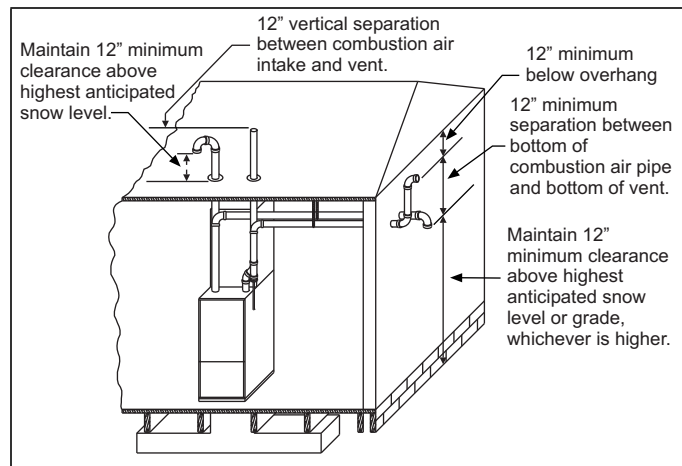
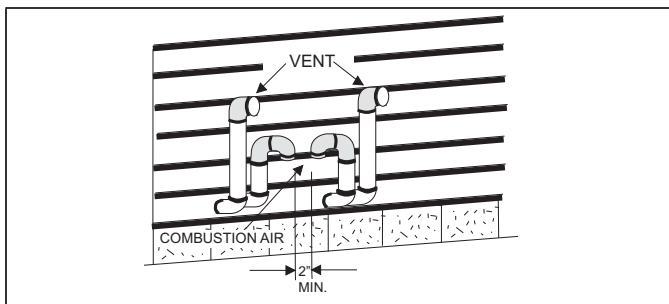

FIGURE 28: Termination Configuration - 2 Pipe
FIGURE 30: Double Horizontal Combustion Air Intake and Vent Termination
7. Direct vent systems must be installed so the vent and the combustion air pipes terminate in the same atmospheric zone. Refer to Figures 28 or 29.
The combustion air side of the two-pipe configuration shown in Figures 28 and 29 can be installed so the combustion air pipe terminates as described in outdoor combustion air or ventilated combustion air sections in these instructions. Follow the instructions for outdoor combustion air or ventilated combustion air and the instructions for installing the vent system with the vent terminating as shown in Figure 30 or 31. The two-pipe system must have a separate combustion air pipe and a separate vent pipe for each furnace. Under NO circumstances can the two combustion air or vent pipes be tied together. The combustion air and vent pipes must terminate in the same atmospheric zone.